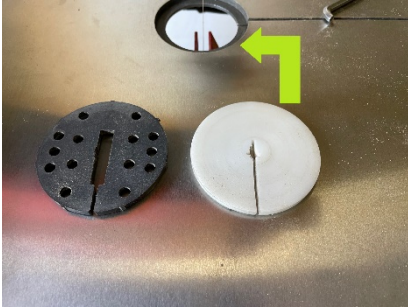

Figure 28
- Mount the insert table for scrolling. (Fig 28)